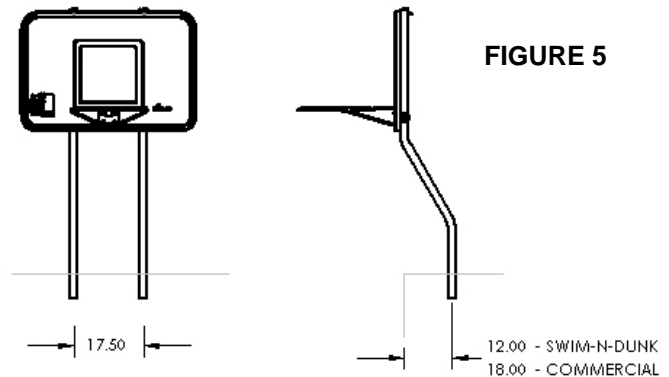

FIGURE 5
7. The Swim-N-Dunk and Commercial Basketball units are to be anchored to the deck using 6 inch deep AS-100P anchor sockets. Install the anchors in the pool deck 17-1/2 inches apart on center and 12 inches back from the pool's edge for the Swim-N-Dunk and 18 inches for the Commercial as shown in **FIGURE 5**. Properly ground the anchor sockets using the attached grounding screw and the appropriate grounding wire per local codes. Allow concrete to cure before installing the Swim-N-Dunk or Commercial Basketball unit.